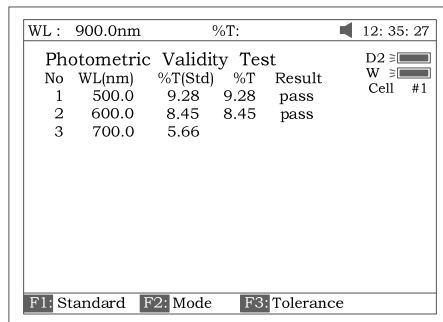

Fig 94
- Put the sample (calibrated neutral density filter) into main light path. Press **[START]** to check. The results will be displayed on the screen (Fig 94). If the discrepancy between the results and the calibrated standards is not more than the tolerance, "pass" will be displayed after the test result. Otherwise, "fail" will be displayed.